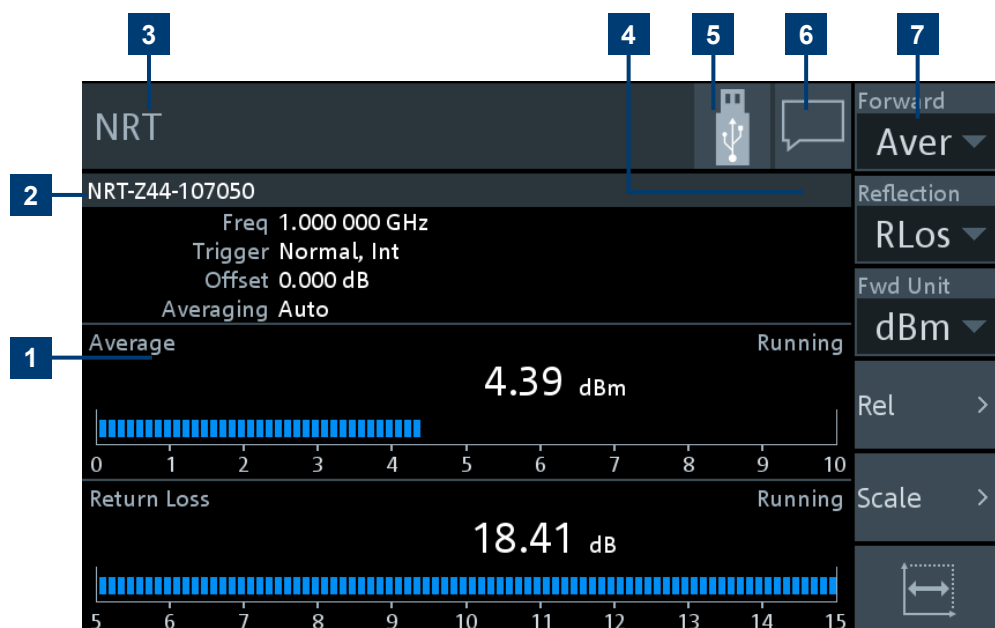

Figure 4-1: Start dialog
The status information is displayed in the upper right corner, left from the notification center. See Figure 4-1.
See (5) in Figure 4-1.